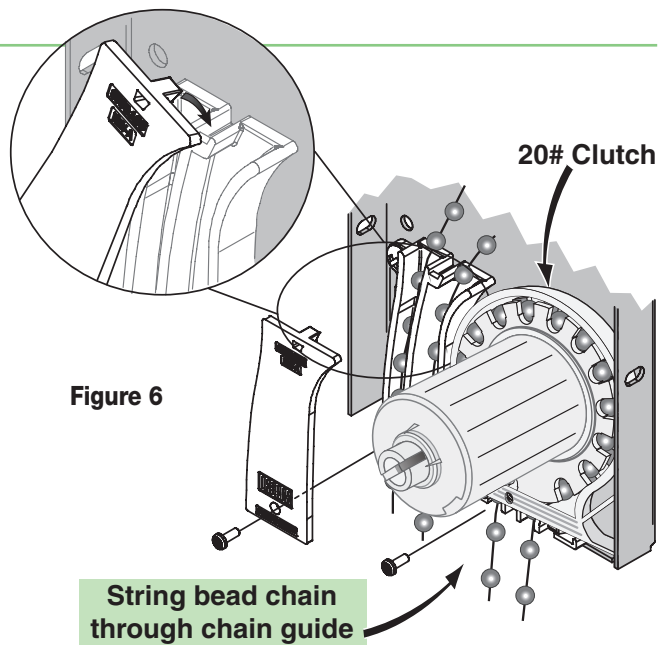

Figure 6
5. String bead chain through chain guide and insert screws (Fig. 6).